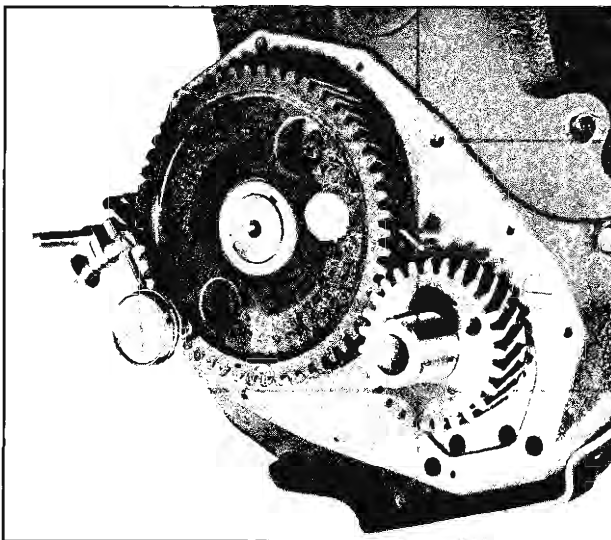

Fig. 26—Checking Camshaft Gear Runout
3. Check camshaft and crankshaft gear runout with a dial indicator (fig. 26). The camshaft gear runout should not exceed .004" and the crankshaft gear runout should not exceed .003".